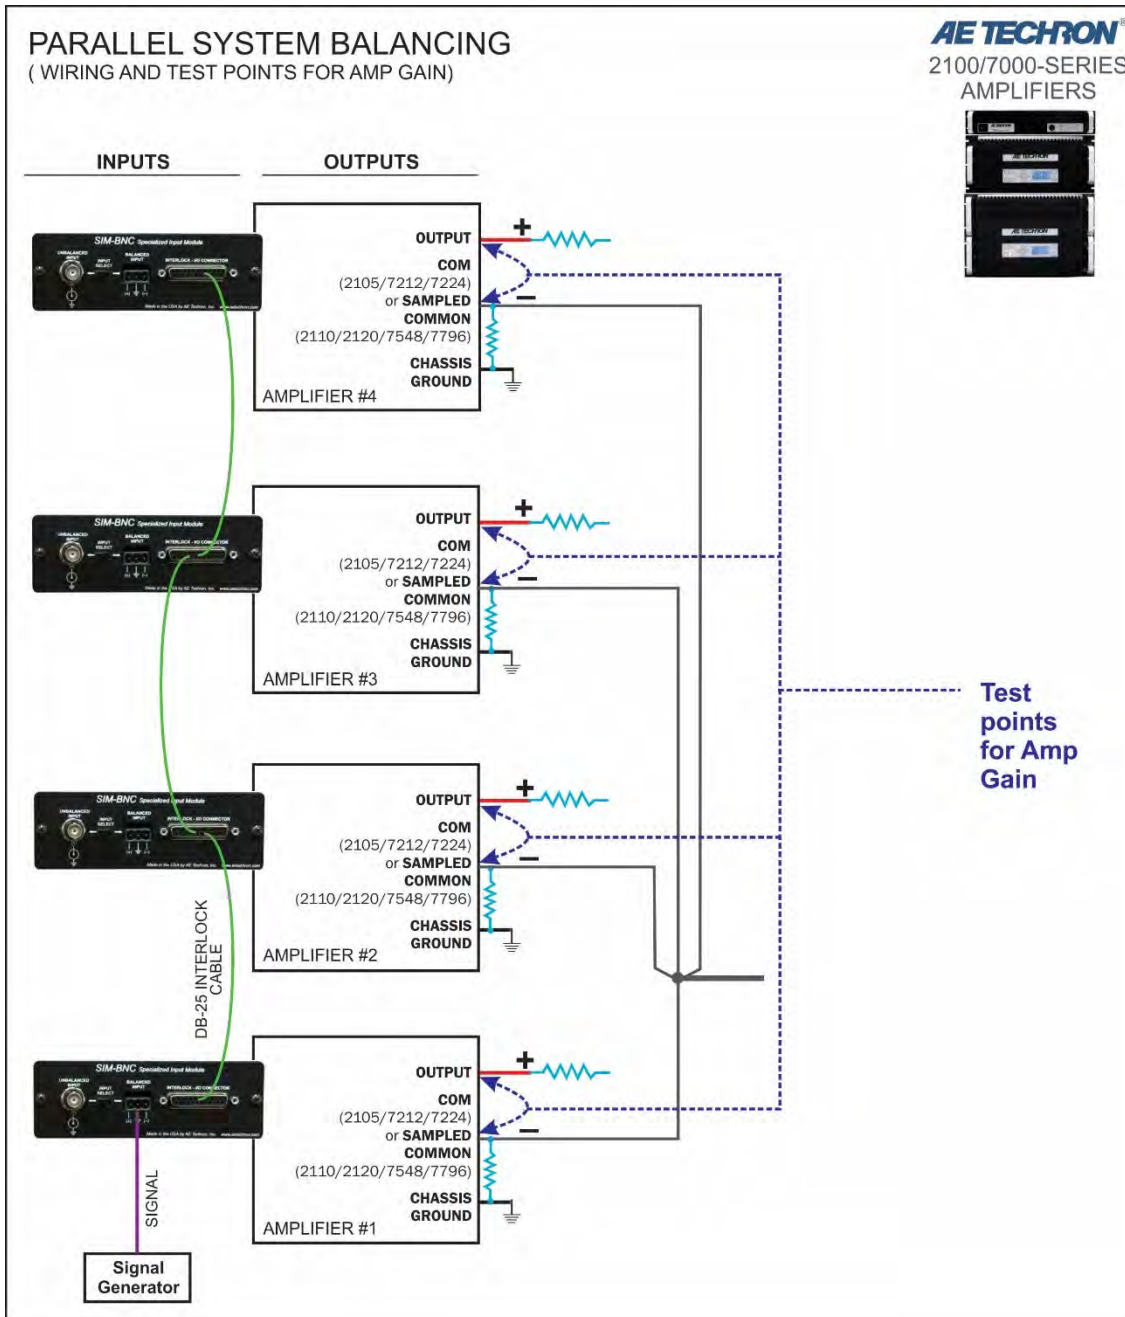

Figure 4.13– Wiring and Test Points for Amp Gain
2. Connect a digital voltmeter set to AC volts between the OUTPUT and COM terminals of the first amplifier. See **Figure 4.13**.